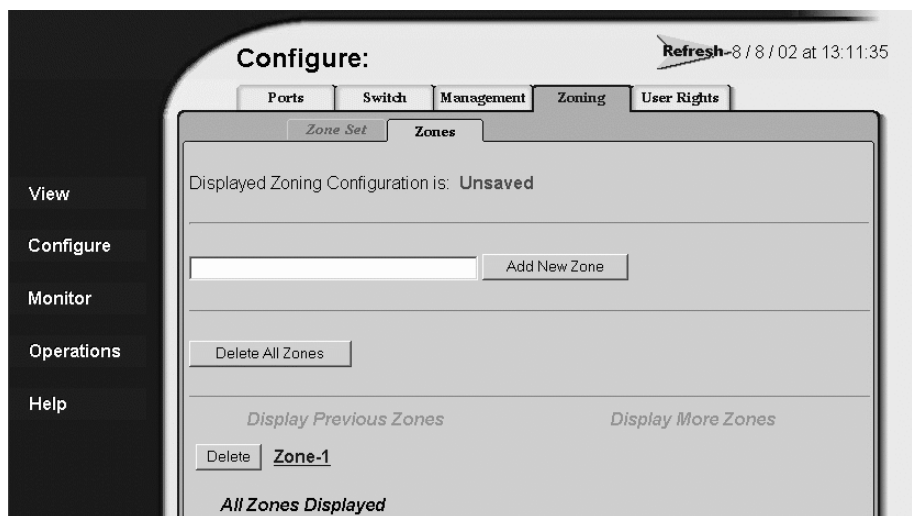

Figure 20: Configuring zones
2. At the **Configure** page, choose the **Zoning** tab and the **Zones** tab. The **Zones** tab view displays as shown in Figure 20.